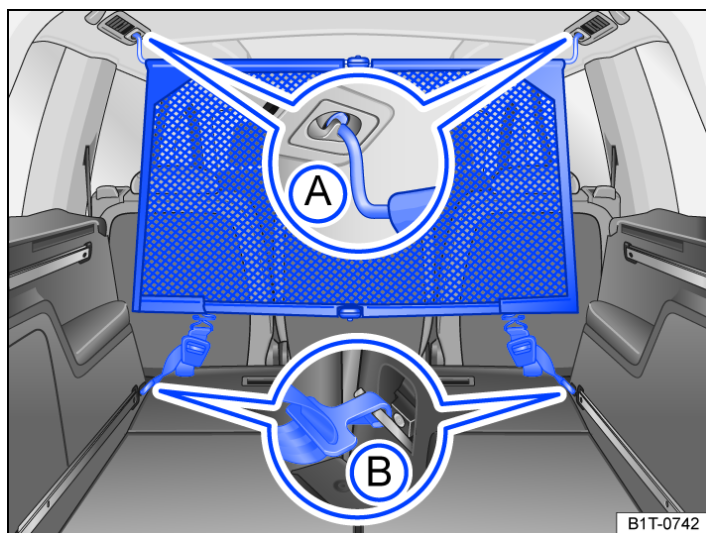

Fig. 1 In luggage compartment: fitting net partition behind the rear bench seat.
- Hook the net partition into one of the two mountings in the roof → Fig. 1 A. Ensure that the crossbar is pulled down over the top position.